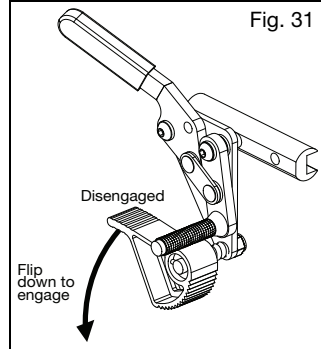

Fig. 31
1. Use a 10mm wrench or socket to loosen (do not remove) the hex bolt (Fig. 31:B) beneath the mounting block of the base frame.
2. Slide the mount plate (Fig. 31:A) forward or rearward to achieve proper locking.